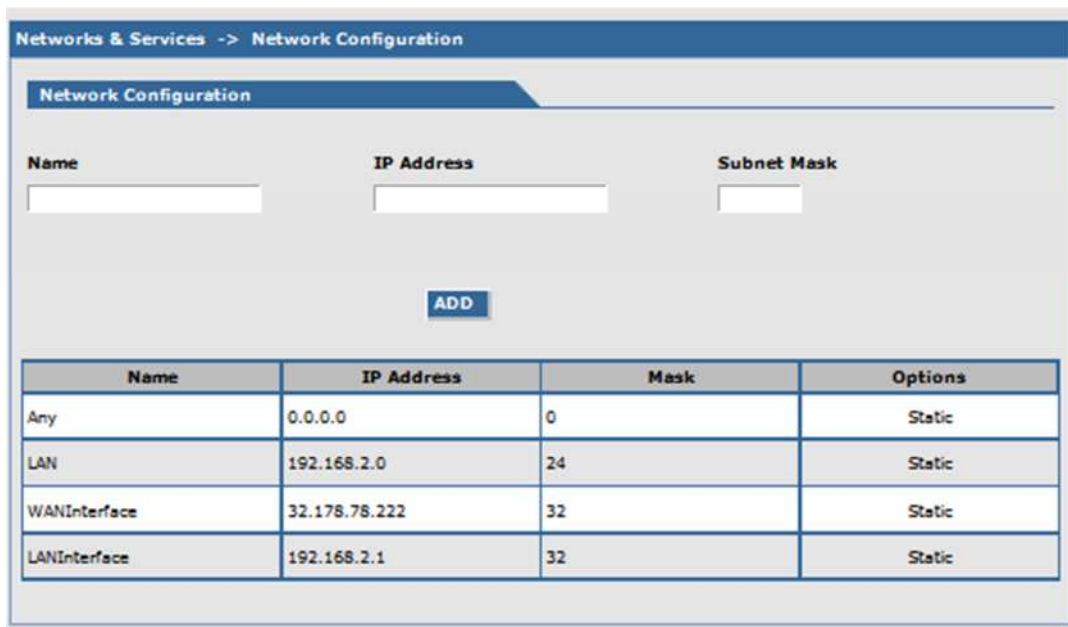

Figure 12 WAN Interface
4. Figure 12). If not, it may be necessary to move the unit to where cellular signal strength is higher. A phone from the same cellular provider can also be used to test general signal strength, if the modem is not connecting.